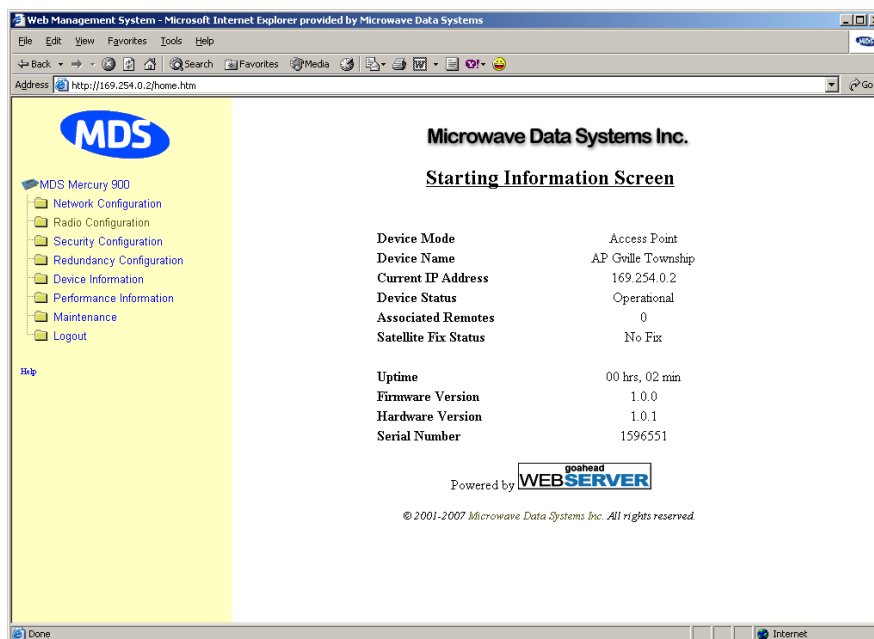

Figure 3-8. Starting Information Screen—Web Browser Example
- Click **OK**. The unit responds with a startup menu screen similar to that shown in Figure 3-8. From here, you can review basic information about the unit or click on one of the menu items at the left side of the screen.